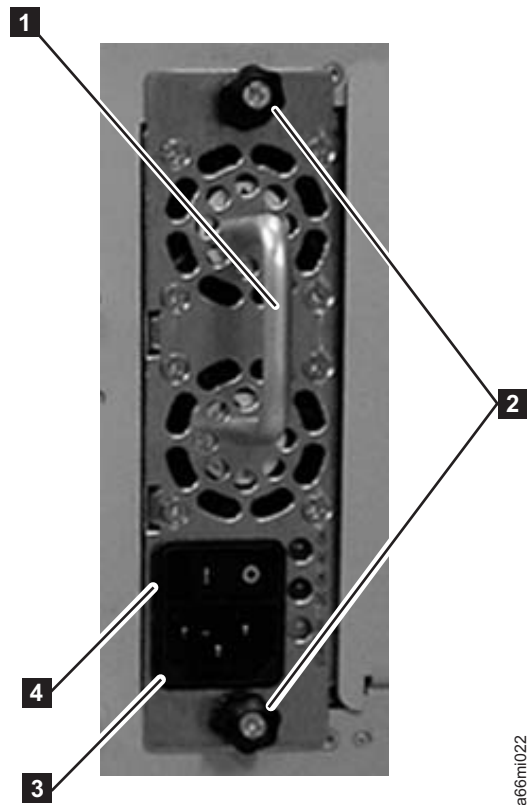

Figure 8-42. Power Supply
Attention: First, disconnect the power cord from the power source. Then, disconnect the power cord from the power supply receptacle (**3** in Figure 8-42).
3. Loosen the two thumb screws (**2** in Figure 8-42) by turning them counterclockwise.
4. Grasp the handle (**1** in Figure 8-42) and slowly pull the power supply toward you, while supporting it from underneath.
2. Grasp the power supply handle (**1** in Figure 8-42) while supporting it from underneath. Then, line up the power supply with the guides in the slot, and carefully push the power supply into the library.
3. Tighten the two thumb screws (**2** in Figure 8-42) on the power supply by turning them clockwise.
Attention: First, connect the power cord to the power supply component (**3** in Figure 8-42 on page 8-43). Then, connect the power cord to the power source.
5. Toggle the power switch (**4** in Figure 8-42 on page 8-43) on the power supply to the I (ON) position.
2. Toggle the redundant power supply power switch (**4** in Figure 8-42 on page 8-43) to the O (OFF) position.
3. Unplug the power cord from the redundant power supply receptacle (**3** in Figure 8-42 on page 8-43).
4. Loosen the two thumb screws (**2** in Figure 8-42 on page 8-43) by turning them counterclockwise.
5. Grasp the handle (**1** in Figure 8-42 on page 8-43) and pull the power supply toward you. Support the component from underneath with your other hand.
3. Insert the redundant power supply by gripping the handle (**1** in Figure 8-42 on page 8-43), sliding it into the guide slots, and pushing it into the empty slot.
4. Tighten the two thumb screws (**2** in Figure 8-42 on page 8-43) that hold the redundant power supply in place.
5. Connect the power cord to the power supply (**3** in Figure 8-42 on page 8-43) and to its source.
6. Turn ON power to the redundant power supply, using the switch (**4** in Figure 8-42 on page 8-43) on the power supply.